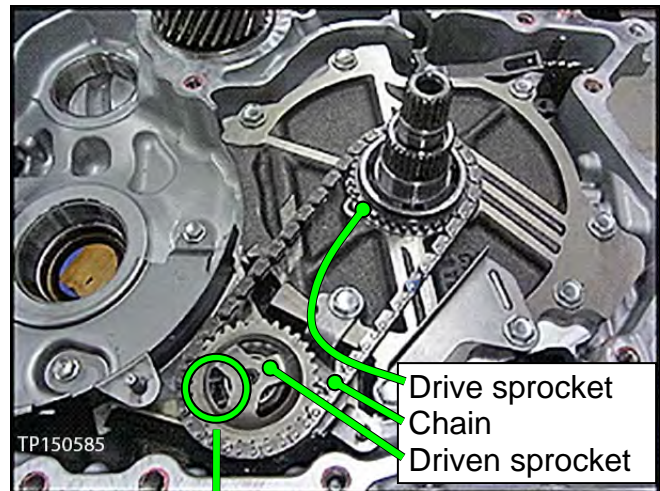

Figure 33
2. While spreading out the snap ring, remove as an assembly the driven and drive sprockets and oil pump chain (chain). See Figure 33 and 35.